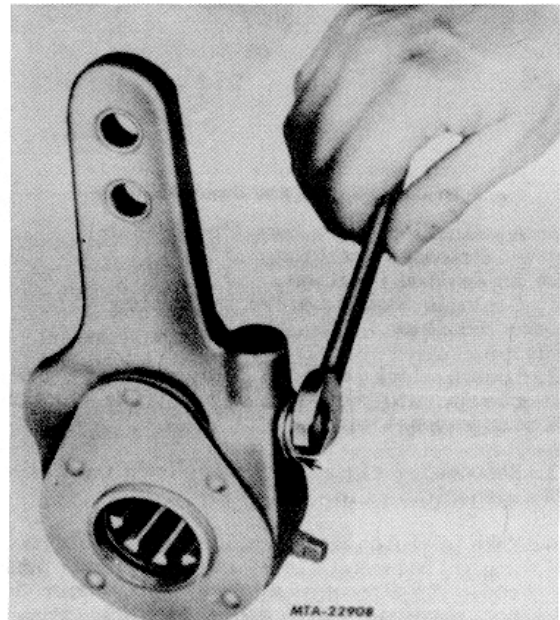

Fig. 1 Slack Adjuster Locking Sleeve on Adjusting Nut
2. Disengage locking sleeve on worm shaft or adjusting screw by depressing spring loaded sleeve with a wrench (Fig. 1).
Fig. 1 illustrates the locking sleeve in its disengaged position. Be sure sleeve is held in, disengaging the adjusting screw when making adjustments.